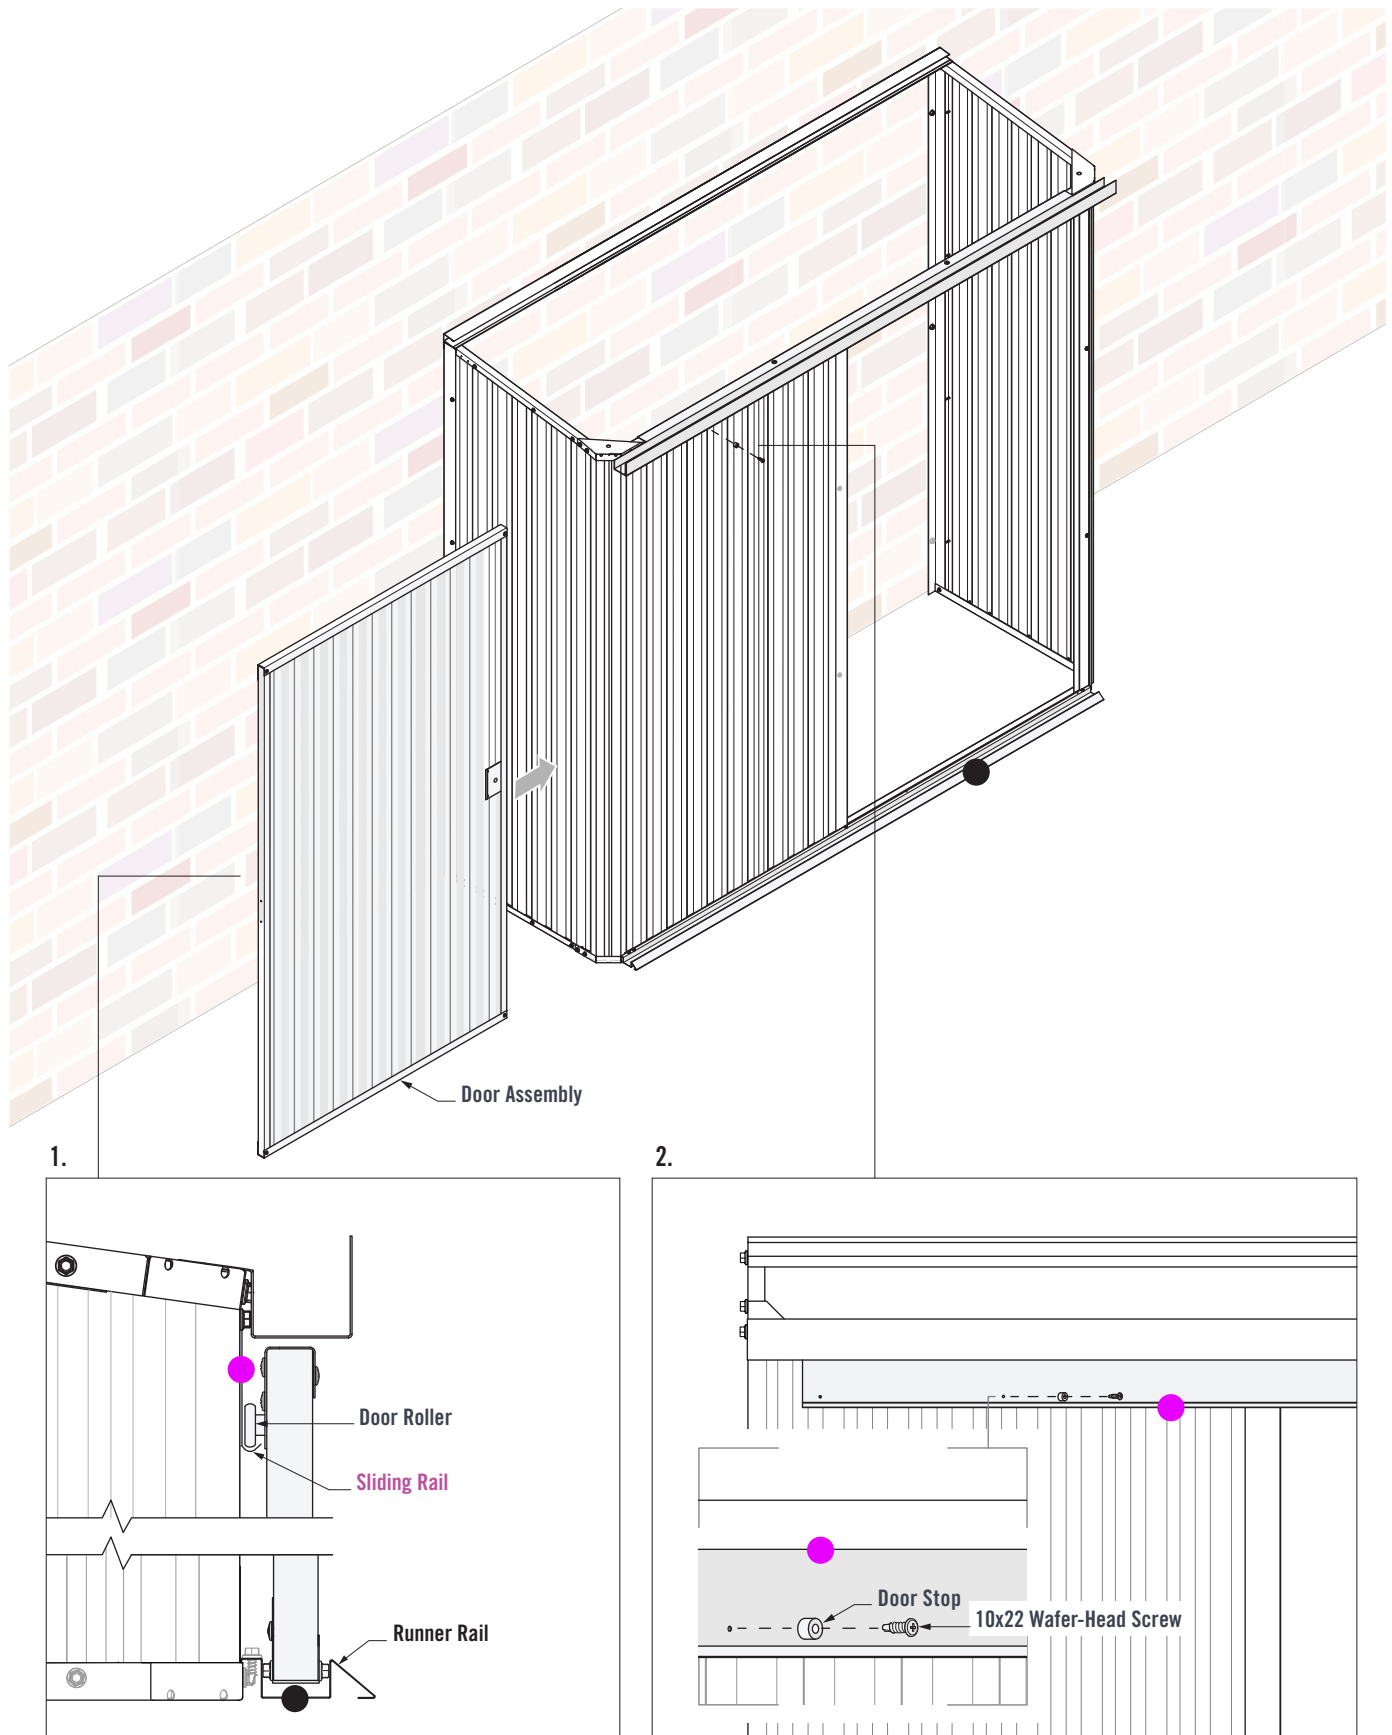

FIGURE 7.4
1. Slide the Door into the **Sliding Rail** and Runner Rail. The Door Roller fits into the **Sliding Rail** at the top. The bottom of the Door fits into the Runner Rail at the bottom (Figure 7.4).
1. Fasten a 10x22 Wafer-Head screw through the Door Stop and into the pilot hole in the **Sliding Rail** (Figure 7.4).